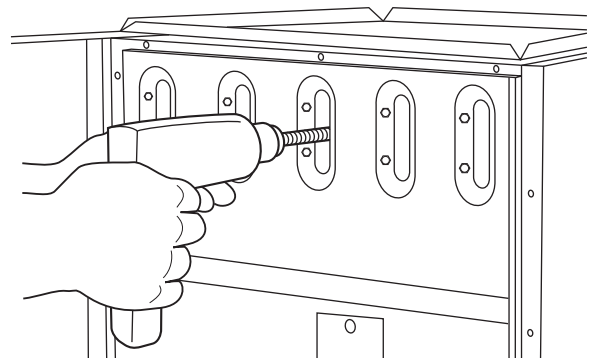

Fig. 50 – Cleaning Heat Exchanger Cell
- (2.) Insert brush end of cable into the outlet opening of cell and slowly rotate with drill. **DO NOT** force cable. Gradually insert cable into upper pass of cell (see Fig. 50).